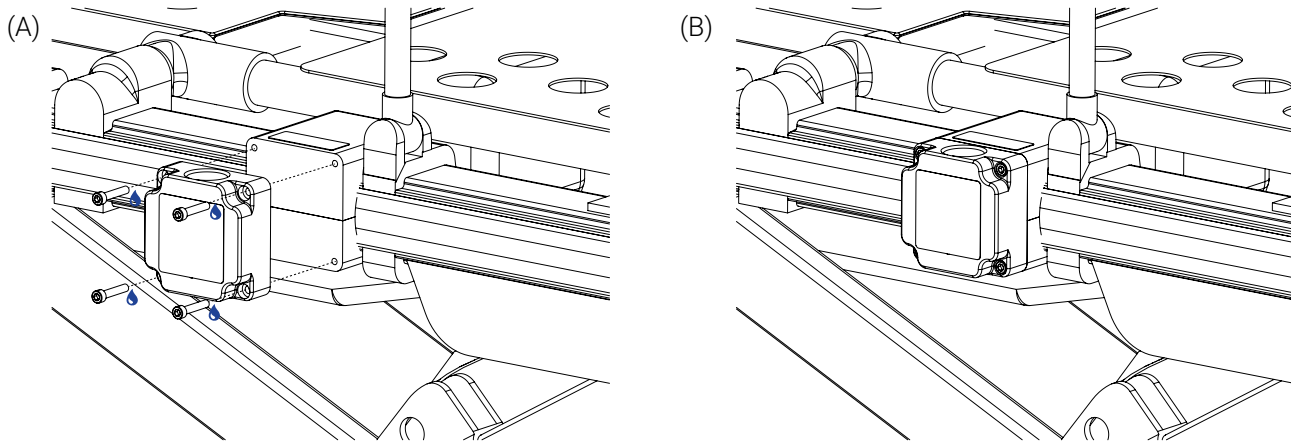

Figure 20: Installing the AP Socket on the PPXT FQS Clamp Block
6. Place the AP Socket on the clamp block, apply medium strength thread lock adhesive to the four (4) 10-32 in. X 1 in. socket head screws, then tighten using a $\frac{5}{32}$ in. hex head socket and torque wrench (Figure 20).